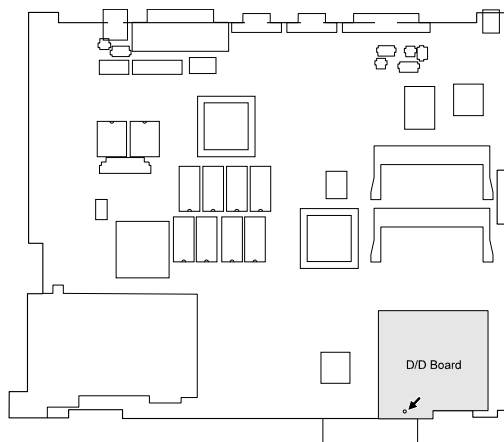

FIGURE 7-34. REMOVING THE DC/DC BOARD
3. REMOVE THE DC/DC BOARD BY REMOVING ONE SCREW AND LIFTING UP. (REFER TO FIGURE 7-34 ON THE NEXT PAGE).
1. RECONNECT THE DC/DC BOARD CONNECTOR TO THE SYSTEM BOARD AND SECURE WITH ONE SCREW. (REFER TO FIGURE 7-34 EARLIER).